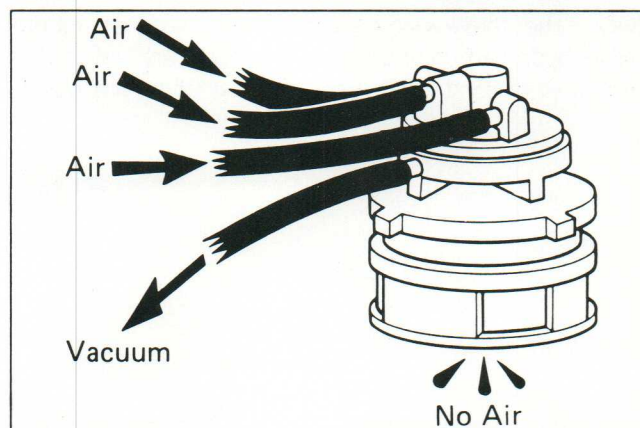

Figure 249-5
3. At low altitude — below 2,570 feet (783 meters) — blow air into any one of the three ports on top of the HAC valve with the engine idling. The HAC valve should be closed (Figure 249-5).